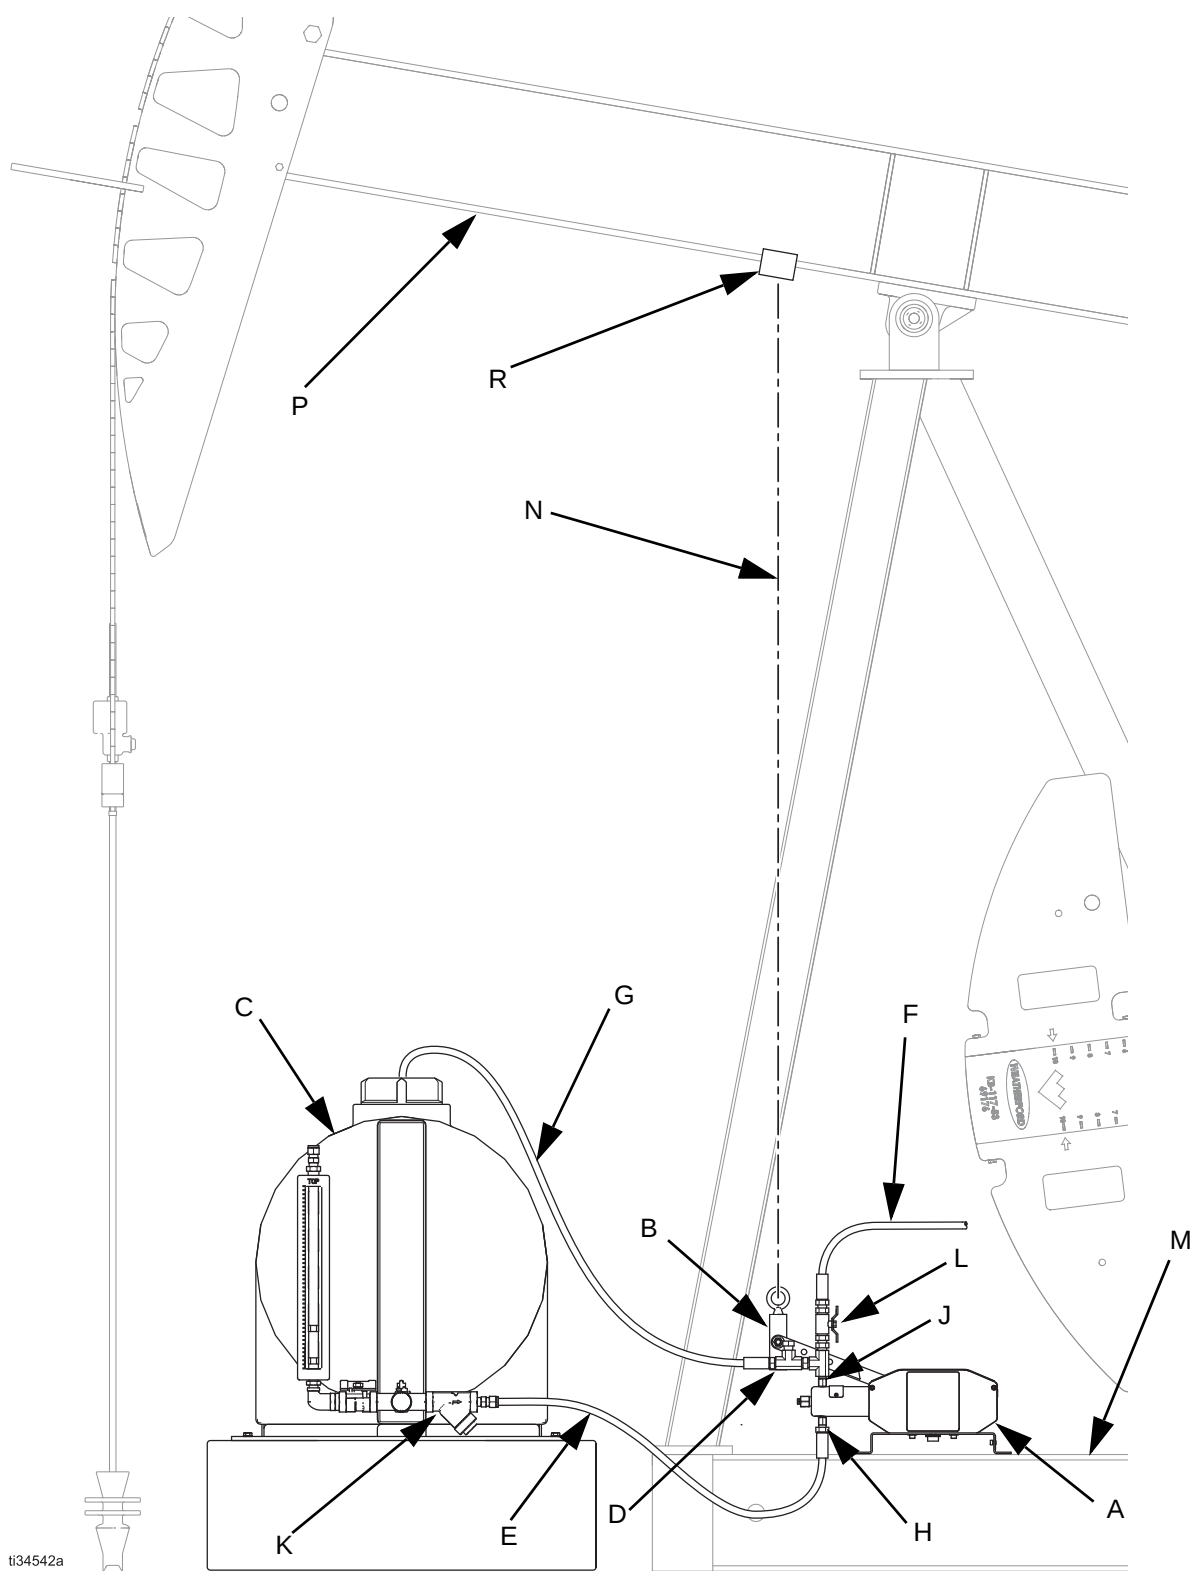

FIG. 3 Typical G-Chem beam pump installation with pumpjack
Install the following required accessories in the order shown in a typical installation (see FIG. 3 on page 9) using adapters as necessary.
FIG. 3 is an example of an installation with a G-Chem chemical injection beam pump. Your installation may differ from what is shown here. (See **Accessories** on page 8.) The G-Chem beam pump (A) and the swivel block (B) are the only components in FIG. 3 supplied by Graco. All other components are supplied by customer.
2. Connect a 1/4 npt(f) fluid line from the fluid source to the inlet check valve (215).
3. Install a pressure relief valve (D) on the outlet side of the pump. See FIG. 3 on page 9.
2. Shut off the inlet (E) and outlet (F) lines using shut-off valves (L). See FIG. 3 on page 9.
3. Slowly loosen the fitting connected to the outlet check valve (216) to relieve downstream fluid pressure. See FIG. 3 on page 8.
4. Open the bleed needle (211) on the end of the pump cylinder (201) to relieve internal pump pressure.
5. Disconnect and cap the inlet (E) and outlet (F) fluid lines.
2. Disconnect lever arm (122) from the pumpjack.
3. Connect the inlet check valve (215) to the supply source of the flushing fluid. See FIG. 3 on page 8.
4. Connect the outlet check valve (216) to a waste reservoir.
5. Operate the lever arm (122) by hand until the dispensed fluid is predominantly flushing fluid.
7. Reconnect the lever arm (122) to the pumpjack. Refer to **Pumpjack Connections**, page 10.